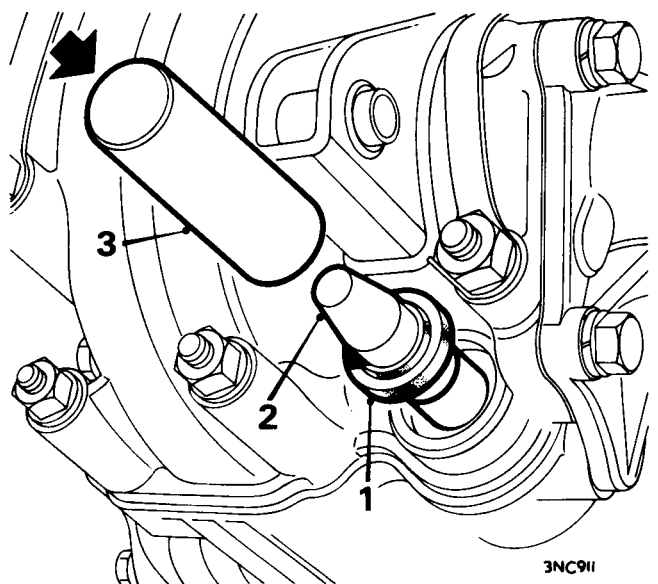

Fig. F.31
6. Place protector sleeve, Service tool 18G 1238 over the selector shaft, see Fig. F.31.
7. Lubricate the new oil seal and drift it into the casing using Service tool 18G 1236, see Fig. F.31.